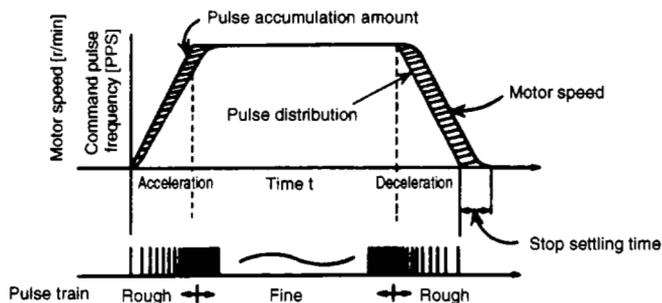

Fig. 3.1
- ④ As shown in Fig. 3.1, the pulse train is rough during motor acceleration, and becomes fine at full speed. During deceleration, the pulse train becomes rough, and the motor will stop with a slight delay compared to the final command pulse is 0.